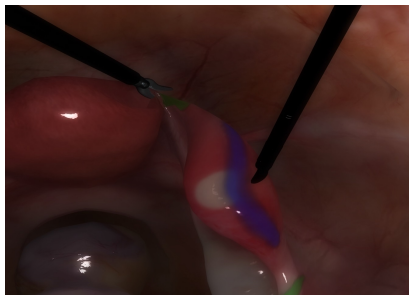

Figure 4.3 Virtual tips. Place of dissection
- in (Figure 4.3) a blue line indicates dissection and coagulation areas.